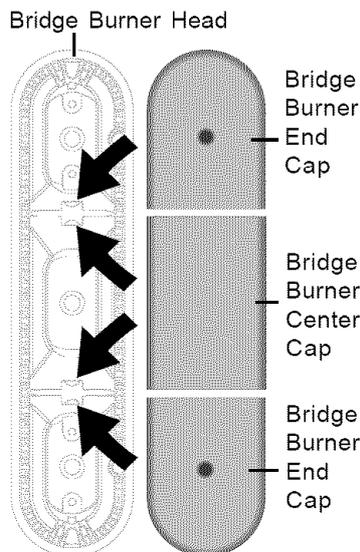

Fig. 6
- Replace Bridge Burner Caps. These include one Bridge Burner Center Cap (rectangular shaped) and the two Bridge Burner End Caps (The Bridge Burner End Caps will fit either the front or rear Bridge Burner Head locations). Make sure that the tabs located under the Bridge Burner Caps fall into the slots located in the Bridge Burner Head (See arrows in Fig. 6) and that all the Bridge Burner Caps lie flat and evenly on the Bridge Burner Head.